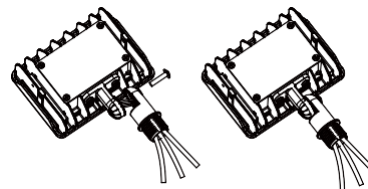

figure 1.3
- Step 4: Pass the wire through from the other bracket and fix it with screws.(Watch out not to scratch the wire); (figure 1.3)